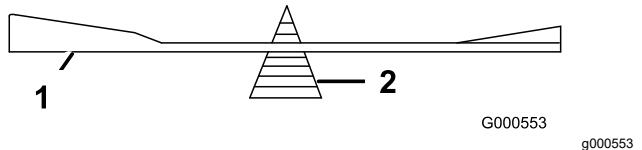

Figure 84
- 2. Check the balance of the blade by putting it on a blade balancer (Figure 84).